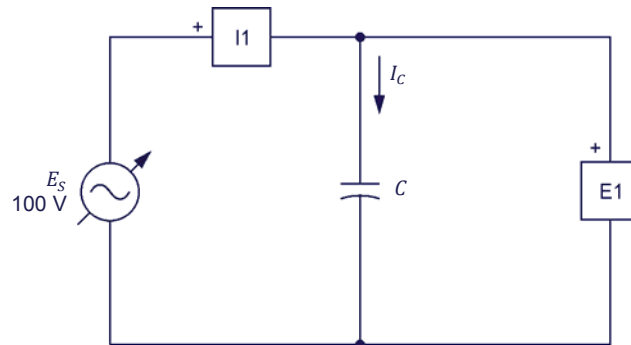

Figure 2-6. AC circuit containing a capacitor.
6. Set up the circuit shown in Figure 2-6.
The value of the capacitance C to be used in the circuit of Figure 2-6 depends on the frequency of the ac power source, as indicated in Table 2-3.